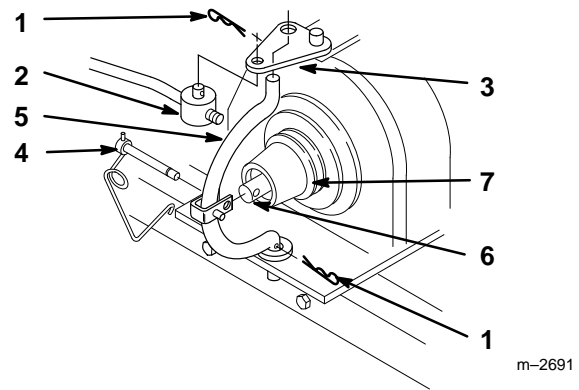

Figure 16
6. Remove hairpin cotters from trunnion and bottom of yoke (Fig. 16).
7. Unlatch and remove clevis pin that secures yoke assembly to clutch shaft. Pivot yoke out and forward to remove from clutch shaft and engagement plate (Fig. 16).
8. Remove belt from pulley (Fig. 16).
9. Assemble yoke and engagement plate and attach clevis pin, trunnion and hairpin cotters to secure (Fig. 16).